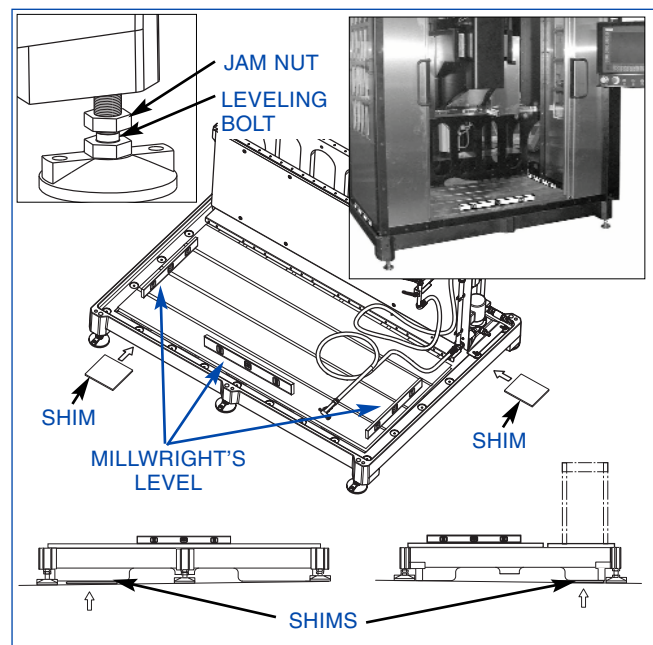

FIGURE 1-3, Leveling Bolts
8. Level and stabilize Machine by placing a millwright's level on ground Table Base (see Figure 1-3). Machine needs to be leveled both from front to back and left to right.